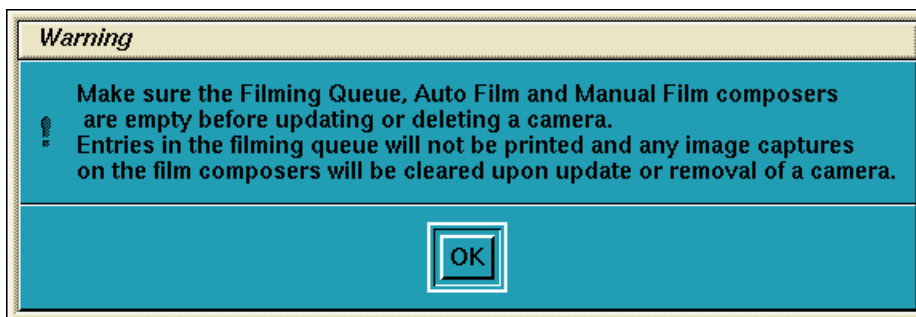
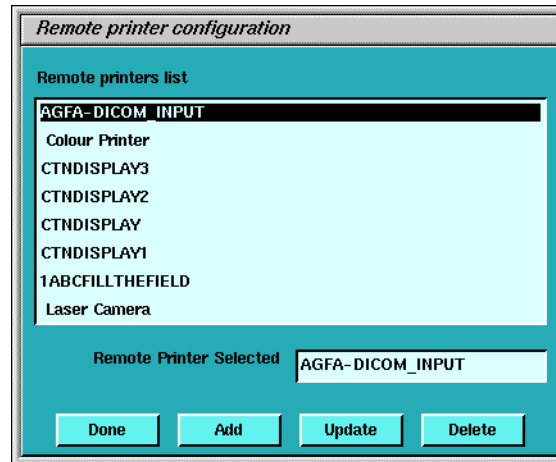

Figure 3-1 Warning Screen
Figure 3-2 Printer Configuration GUI
- 3.) The Graphical User Interface displayed shows a list of cameras installed (See Figure 3-2). First, you must click OK in the warning message box. See Figure 3-1.
- a.) To add a new camera, click the ADD button (Figure 3-2).